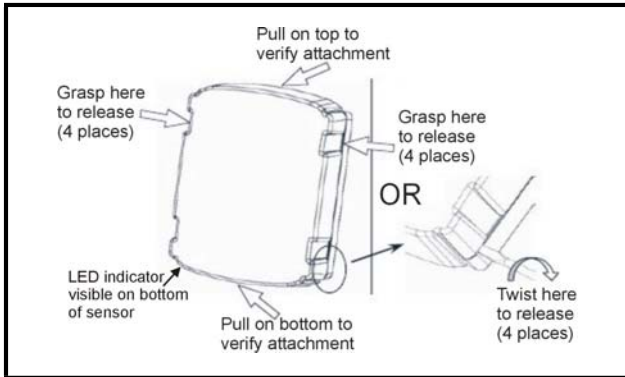

Figure 3 - Attaching And Removing The Cover
- Verify the cover is securely attached to the base by pulling on the top and bottom of the cover as shown in **Figure 3**.